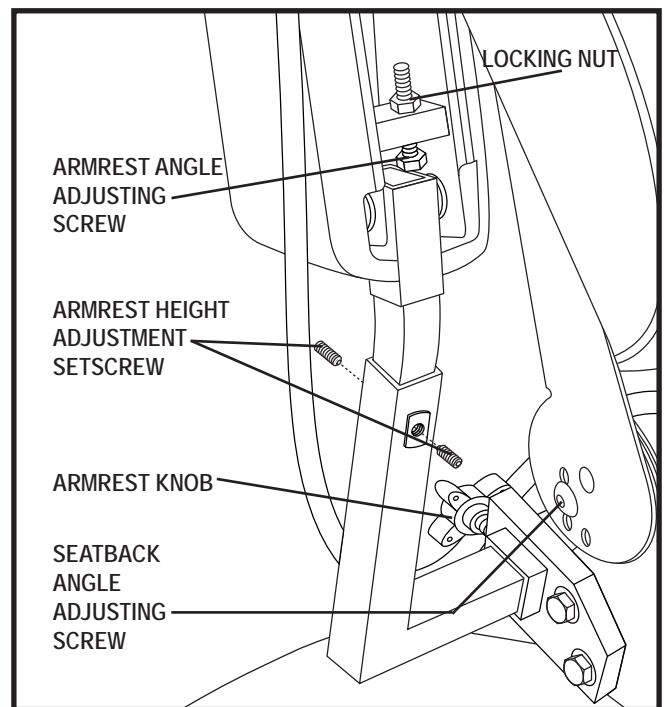

Figure 14. Seatback Angle Adjustment
1. Remove the adjusting screws from each seat hinge. **See figure 14.**
1. Locate the two armrest knobs on each side of the armrest receiver bracket. **See figure 14.**
1. Lift the armrest straight up so that it is perpendicular to the floor. **See figure 14.**